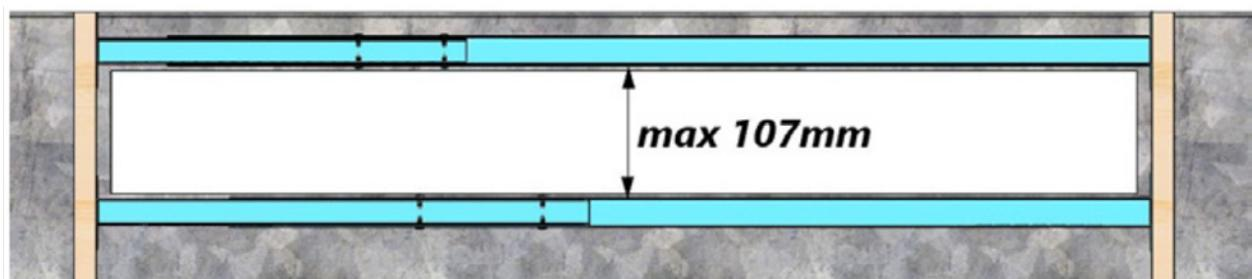
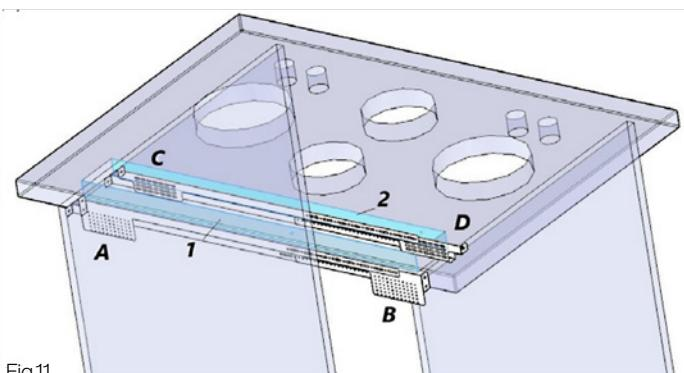
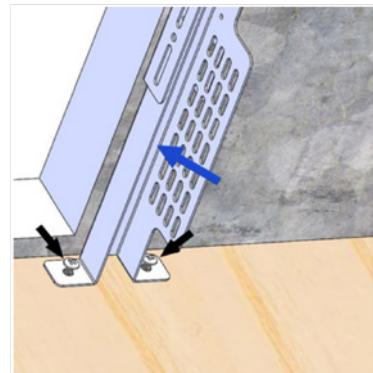

Fig.10
Fig.11
Fig.12
6. Line up the edges of the two sections of frame with the benchtop cutout and secure in place as per below - see Fig.10, Fig.11 & Fig.12. Note: The screws put in place in (Fig.9) cannot sit inside the width of the benchtop cutout as they will obstruct the downdraft body when lowered into place.
7. These brackets are fixed in between the horizontal length brackets and are put into position by inserting one at either end ensuring that the slotted holes and the round holes correspond with the horizontal bracket allowances (Fig12). Slotted holes of parts E & F will be at the rear side (furthest from cooktop) and the round holes to the front side (nearest to cooktop) (Fig.15).